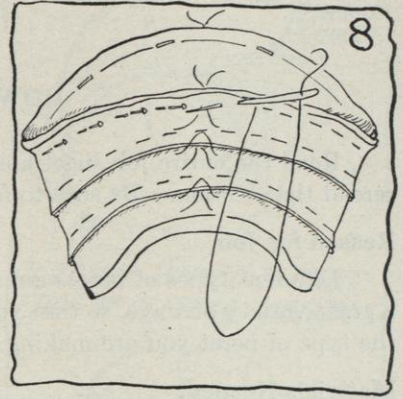

FIG. 8.
- (a) Pin the side crown to the tip with the wrong sides out, so that the stitches of the same color thread meet (see Figure 8).
- (b) Baste tip to side crown in a $\frac{1}{4}$ -inch seam, being sure to keep basting either on traced lines or on the bastings which hold the interlining and the outer material together (see Figure 8).